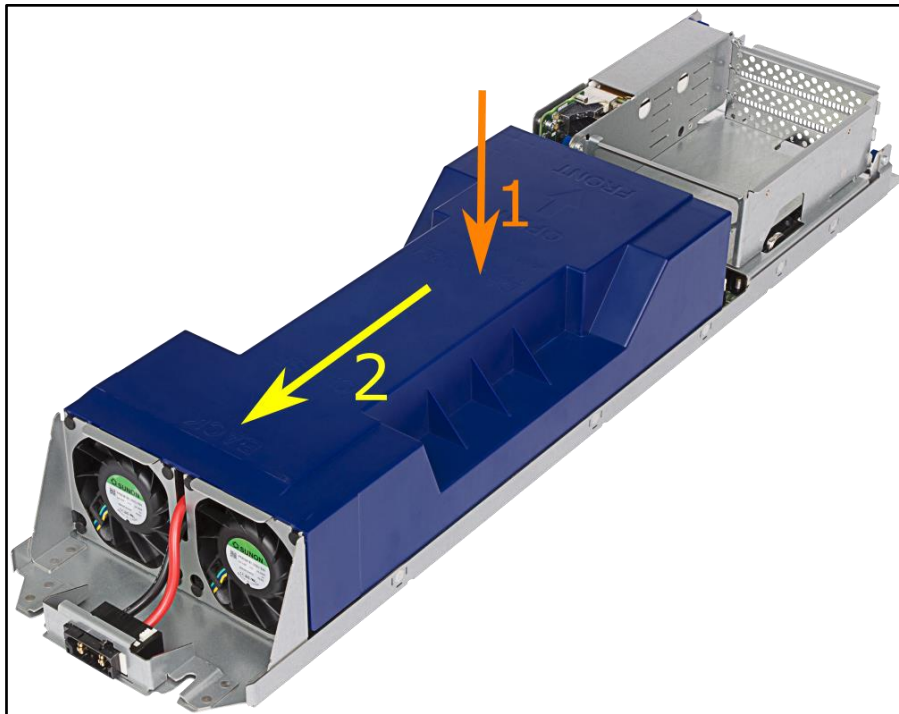

Figure 71: Inserting the air duct
- To insert the air duct, pull it down with the metal guiding pins aligned to the plastic openings (step 1 and detail in Figure 71) and then move it backwards until it locks and attaches to the mechanics (step 2).